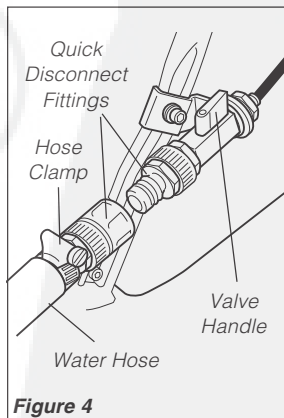

Figure 4
8. Insert the hose fitting (7) into a garden hose and secure it with the hose clamp (8). Attach the female quick-disconnect fitting (6) to the hose fitting, then connect the female quick-disconnect fitting to the male quick-disconnect fitting (5) on the valve assembly. See Figure 4.